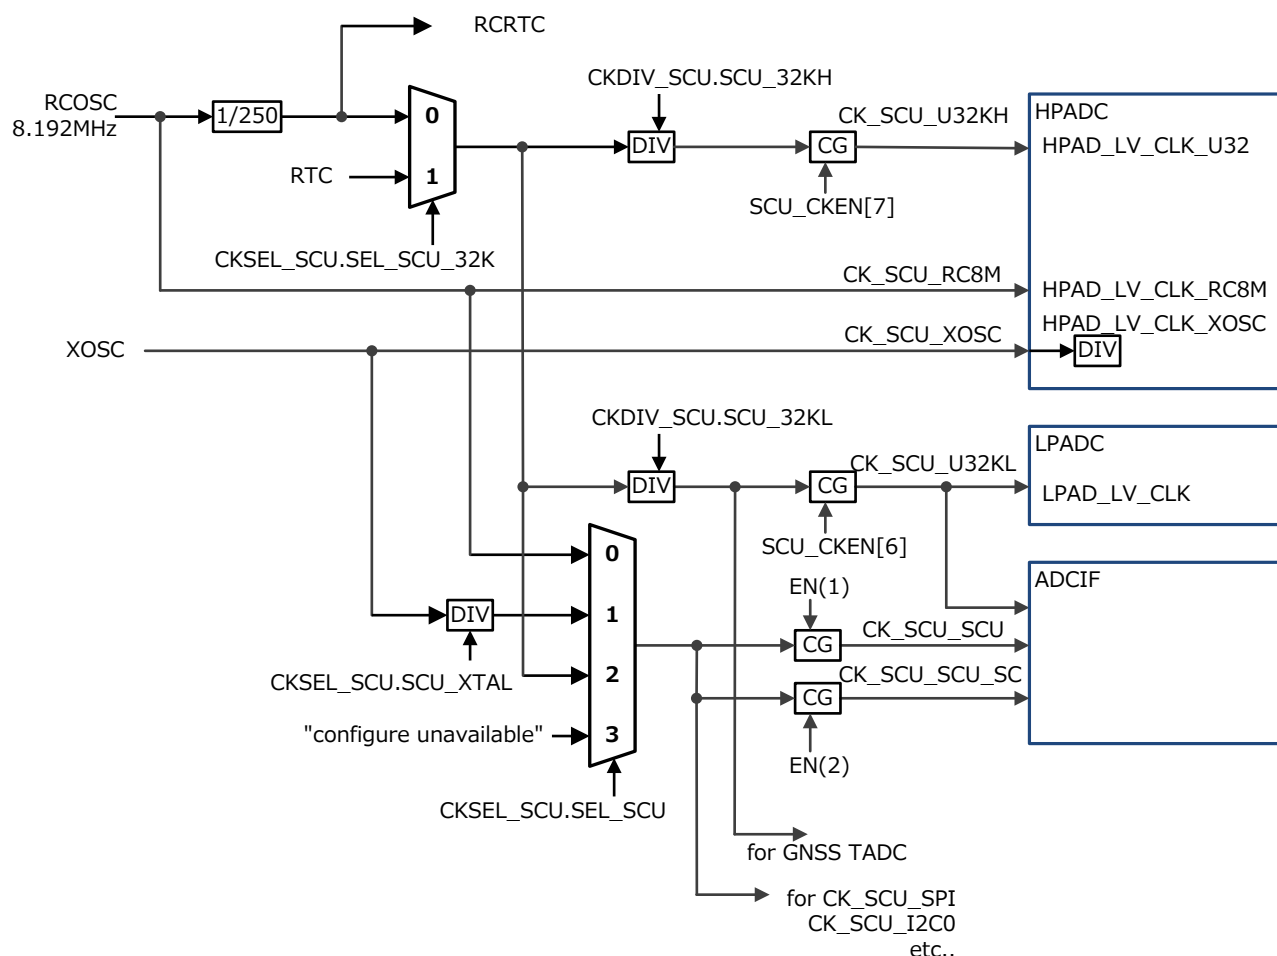

Figure ADC-120 Schematic Diagram of the Clock Control
For EN(1) and EN(2) in Figure ADC-120, and the summary of clock source selection, refer to Section of the Clock Control described in Chapter of the SCU (3.9).